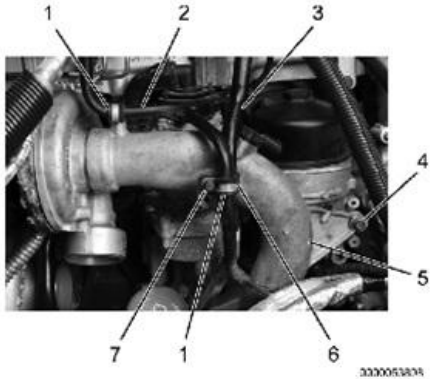

Figure 3. Coolant Supply Tubes.
1. Coolant return tube P-clamp (2)
4. HP turbocharger inlet duct bolt (2)
7. Coolant tube P-clamp bolt (2)
13. Remove two coolant tube P-clamp bolts (Figure 3, Item 7) from two coolant return tube P-clamps (Figure 3, Item 1), coolant supply tube P-clamp (Figure 3, Item 6), coolant return tube (Figure 3, Item 2) and coolant supply tube (Figure 3, Item 3).
14. Position coolant return tube (Figure 3, Item 2) and coolant supply tube (Figure 3, Item 3) aside.
15. Remove two HP turbocharger inlet duct bolts (Figure 3, Item 4) from HP turbocharger inlet duct (Figure 3, Item 5).